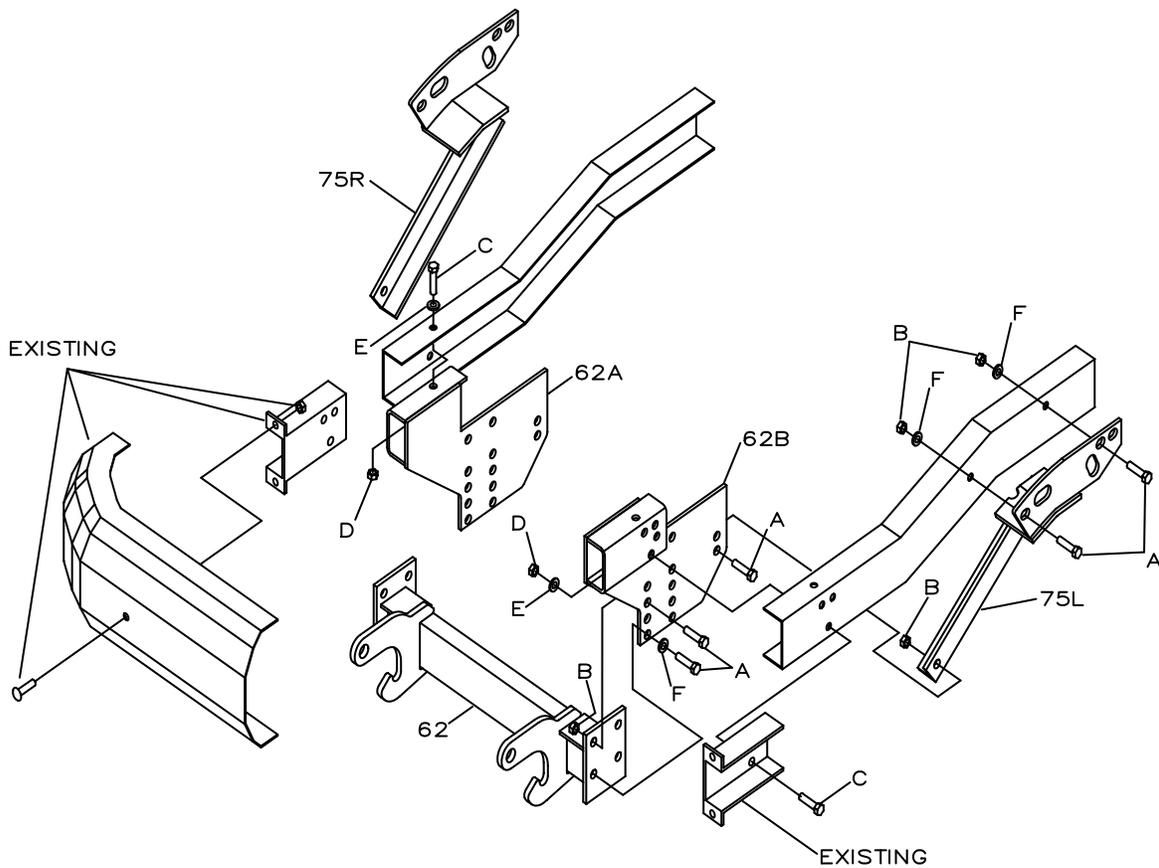

Figure 1
3. Position the PUSH BEAM SUPPORT PLATES (Ref. 62A and 62B, Fig. 1) and Front Bumper Mounting Brackets on the Frame Horn and attach using 1/2" – 13 x 2" HEX HEAD BOLTS, 1/2" – 13 HEX HEAD SELF LOCKING NUTS, and 1/2" FLAT WAHSER as shown in Figure 1. Note that 3 bolts attach through the side of the Frame Horn, and one bolt through the top of the Frame Horn.
4. Position the PUSH BEAM (Ref. 62, Fig 1) between the PUSH BEAM SUPPORT PLATES using 5/8" – 11 x 2" HEX HEAD BOLTS and 5/8" – 11 HEX HEAD SELF-LOCKING NUTS.
5. Position the ANGLE BRACKET (RH) (Ref. 75R, Fig. 1) between the frame rail and PUSH BEAM SUPPORT PLATE. Bolt the ANGLE BRACKET to the PUSH BEAM SUPPORT PLATE using 5/8" – 11 x 2" HEX HEAD BOLTS and SELF-LOCKING NUTS.
7. Install the ANGLE BRACKET (LH) (Ref. 75L, Fig 1) following the same procedure as steps 5 and 6 above.